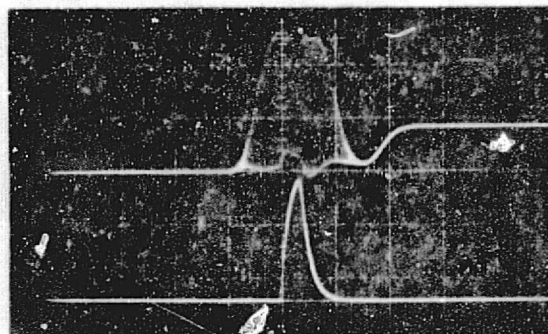

Figure 5-13. A2TJ1 V-Clamp (top)
5.3.1.2.3.2 Sample Delay Adjustment (refer to Figure 5-13)